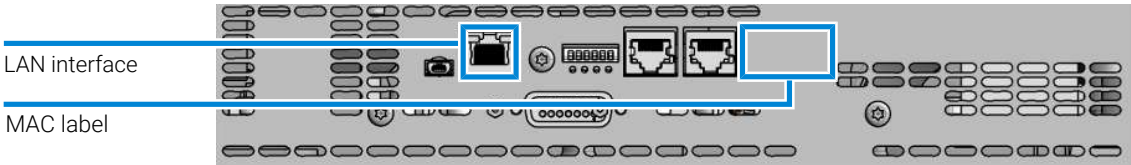
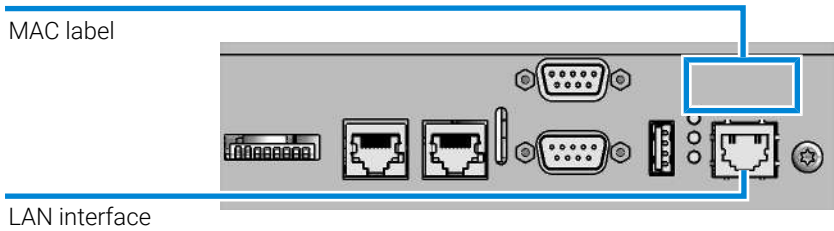

Figure 21: Location of LAN interfaces and MAC label (board with 6-bit configuration switch)
Figure 22: Location of LAN interfaces and MAC label (board with 8-bit configuration switch)
- 1 Note the MAC (Media Access Control) address for further reference. The MAC or hardware address of the LAN interfaces is a world wide unique identifier. No other network device will have the same hardware address. The MAC address can be found on a label at the rear of the module (see Figure 21 on page 184, or Figure 22 on page 184).